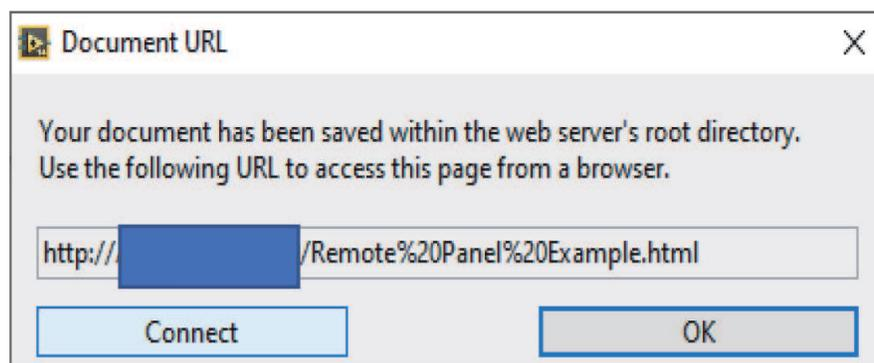

Figure 26.
11. Click **Connect** button in **Document URL** window (**Figure 26**). Ensure that default browser is Internet Explorer. If not, copy URL address and paste it to Internet Explorer.